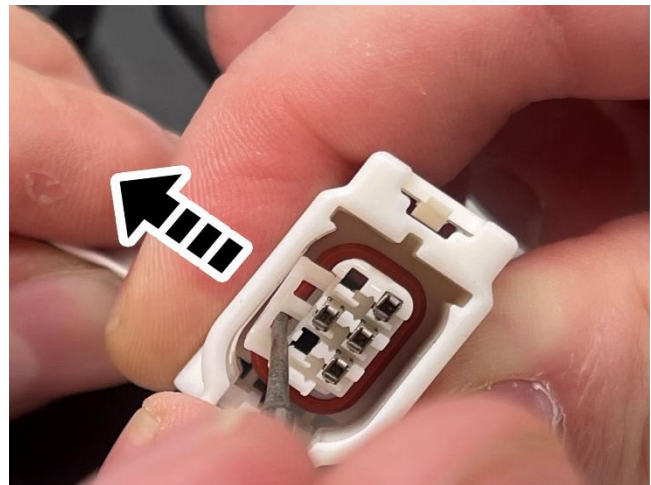

Figure 4 – Unlocking Wire
12. Using a small terminal extraction tool, pry on the wire locking mechanism inside the connector and pull on back of wire to release the wire (Figure 4).